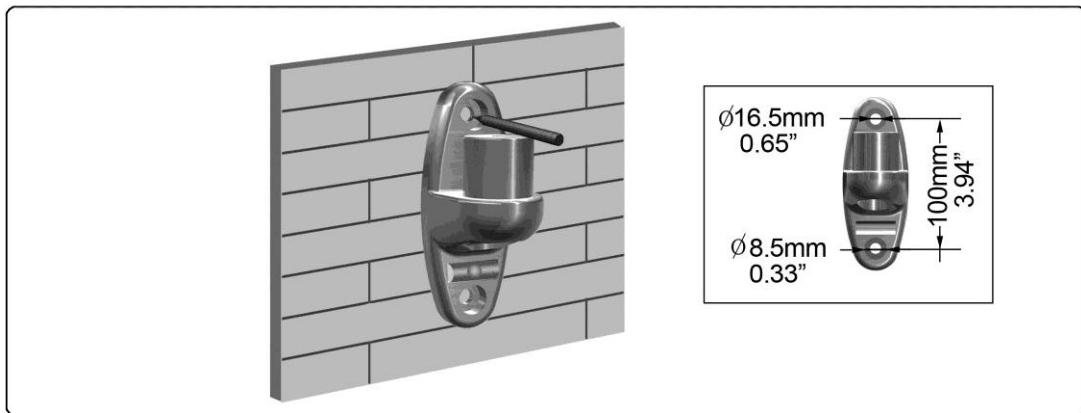

Figure 1-6
2. Place the Wall Plate (2) on the wall. Mark the mounting location (**See Figure 1-6**).